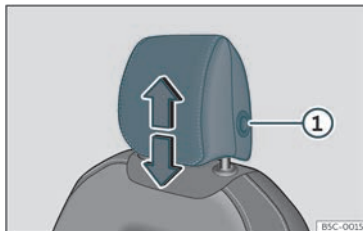
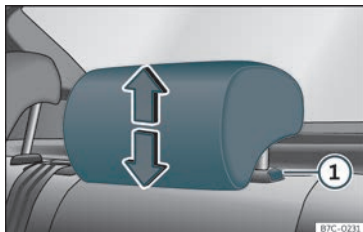

Fig. 106 Front seat: headrest adjustment.
Fig. 107 Rear headrest: headrest adjustment.
- Grab the sides of the head restraints with both hands and push upwards to the desired position. To lower it, repeat the same action, pressing the button on the side ① >>> Fig. 106 >>> Fig. 107.
- Press the side button >>> Fig. 106 ① and remove the headrest.